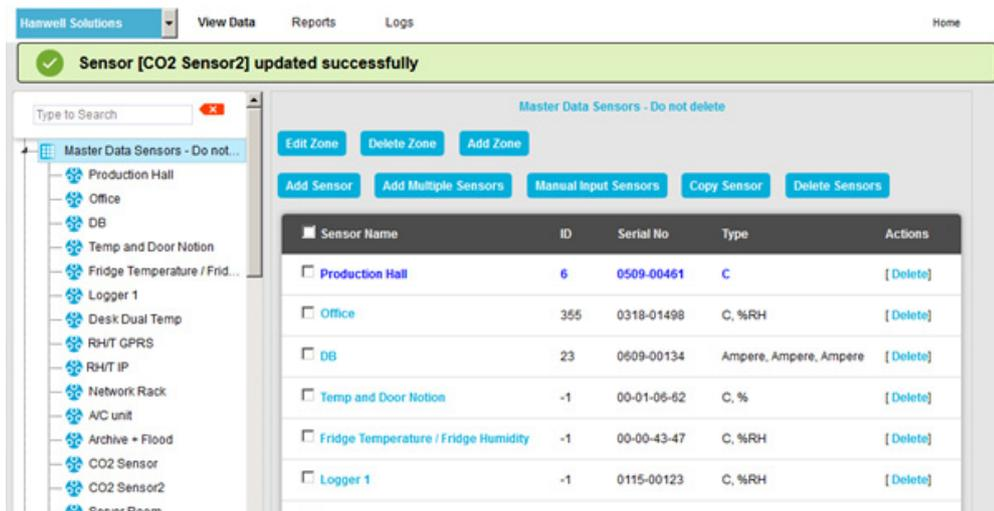

Figure 11
- If the Update has been successful, you will be returned to the Zone's **Edit Mode** window and the following message will be displayed. See example in Figure 11 below: